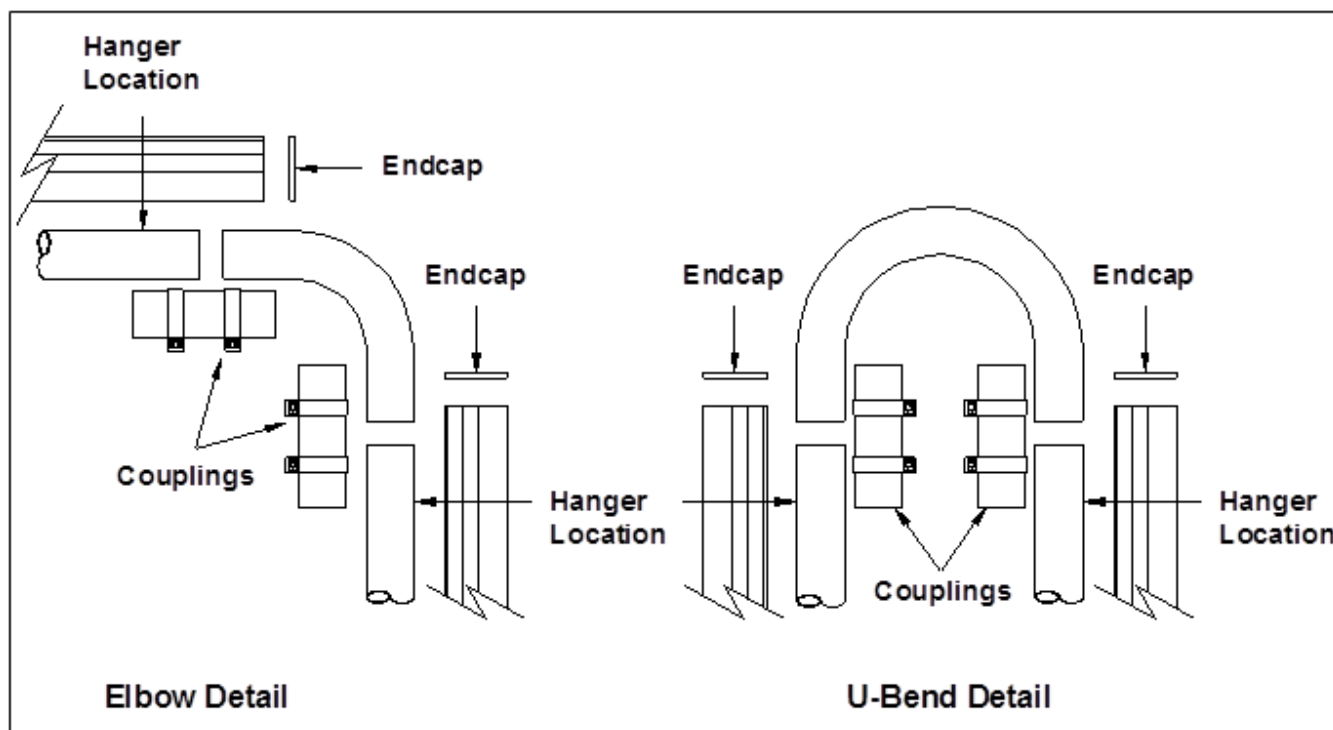

Figure 21: 90° Elbow and U-Tube Assembly Detail
- If required by the heater layout, install 90° elbows or U-tube where indicated. Refer to Figure 21 for details.